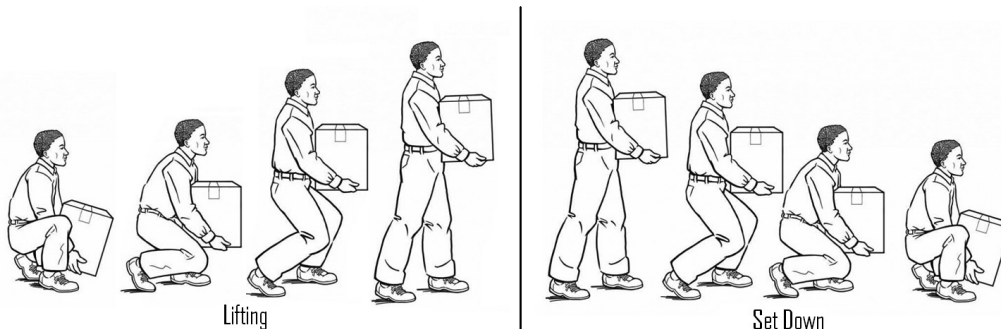

Figure 1- Lifting Instruction
- ◆ When lifting and carrying, always keep the pump close to your body (See Figure 1).
- ◆ When starting the lift, bend your knees and keep your back straight (See Figure 1). Tightening the stomach muscles will help keep your back straight.
- ◆ During the lift, use your legs to do the work. Never use your back, and make sure your legs are at least shoulder-width apart (See Figure 1).